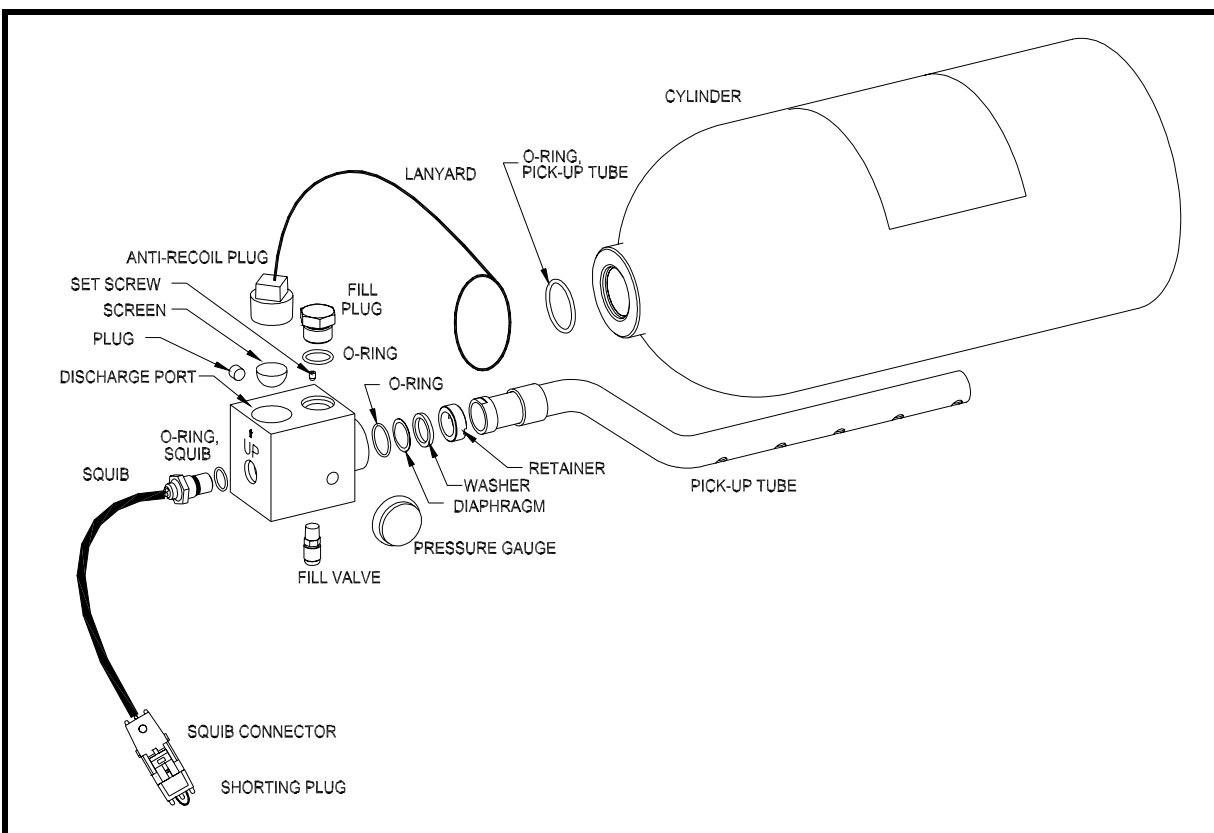

Figure 2. Valve Components
3. Bleed residual pressure from the extinguisher through the fill valve. To minimize agent loss, orient cylinder so that the arrow on the valve points downward. Figure 2 identifies valve components.
Refer to Figure 2 for location of parts.
Refer to Figure 2 & 3 for location of parts.